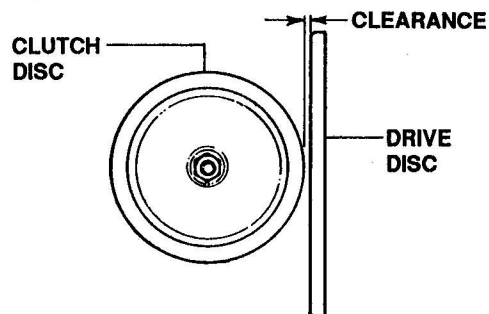

FIGURE 4.13
4. Visually inspect to make certain there is clearance between clutch disc and drive disc. See Figure 4.13.
8. Check for clearance between clutch disc and driven disc. If no clearance is visible, repeat steps 5 and 6 until clearance is visible. Refer to Figures 4.13 and 4.14.